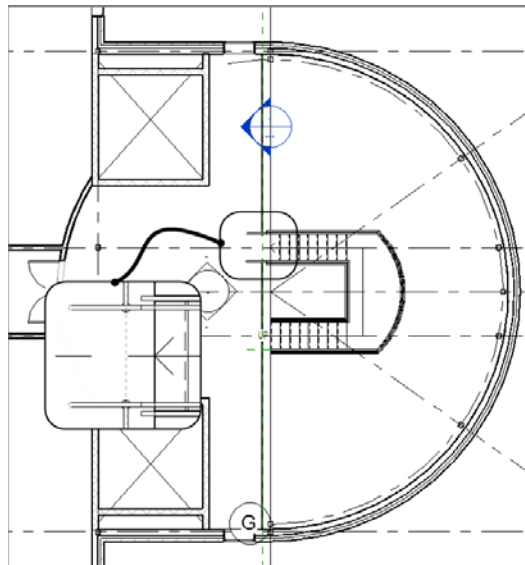

FIGURE 10.32: Reconfiguring the fifth floor
7. Delete the middle railing, and make the south railing extend to the ADA post, as shown in Figure 10.32.